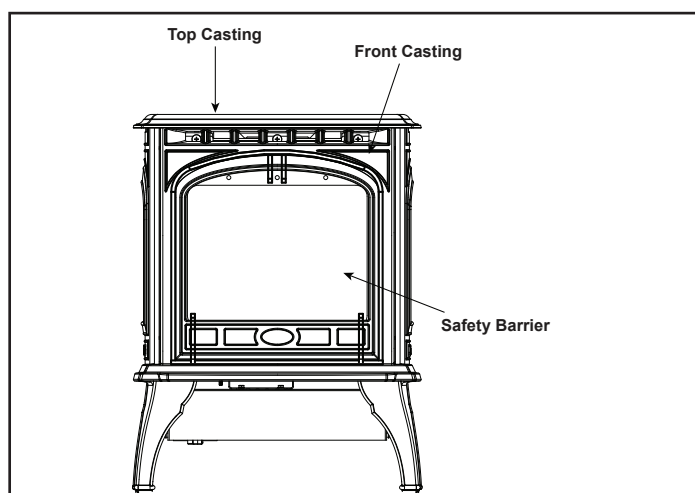

Figure 4.1 - Remove Casting
- Remove front casting by grasping it at the top and lifting up. See Figure 4.1. Set front casting aside on prepared work surface.